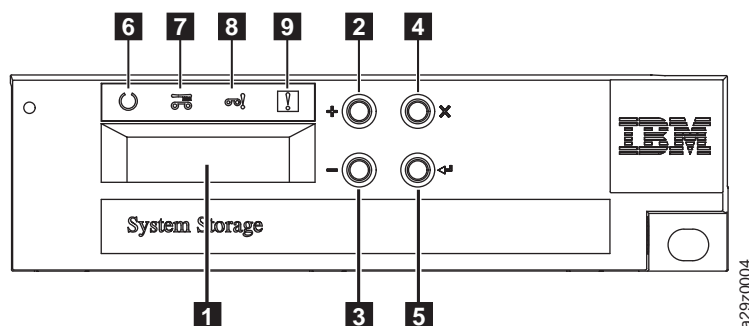

Figure 8. Operator Panel components
- The **Ready/Activity LED** (**6** in Figure 8 on page 13) turns ON any time the unit is powered ON and functional. The Ready/Activity LED flashes whenever there is library. This LED also flashes when the library is offline.
- The **Clean Drive LED** (**7** in Figure 8 on page 13) turns ON when a "cleaning required" command is issued by the drive. The LED turns OFF after a successful drive cleaning operation.
- The **Attention LED** (**8** in Figure 8 on page 13) turns ON to indicate that a piece of media is bad/marginal, or invalid. The LED turns OFF when all marginal and invalid cartridges are exported from the library. The Attention LED also turns ON if Autoclean is enabled and no cleaning cartridge is in a cleaning position.
- The **Error LED** (**9** in Figure 8 on page 13) turns ON when there is an unrecoverable drive or library failure. An error message is displayed on the screen and the LED remains ON until the error state is resolved.